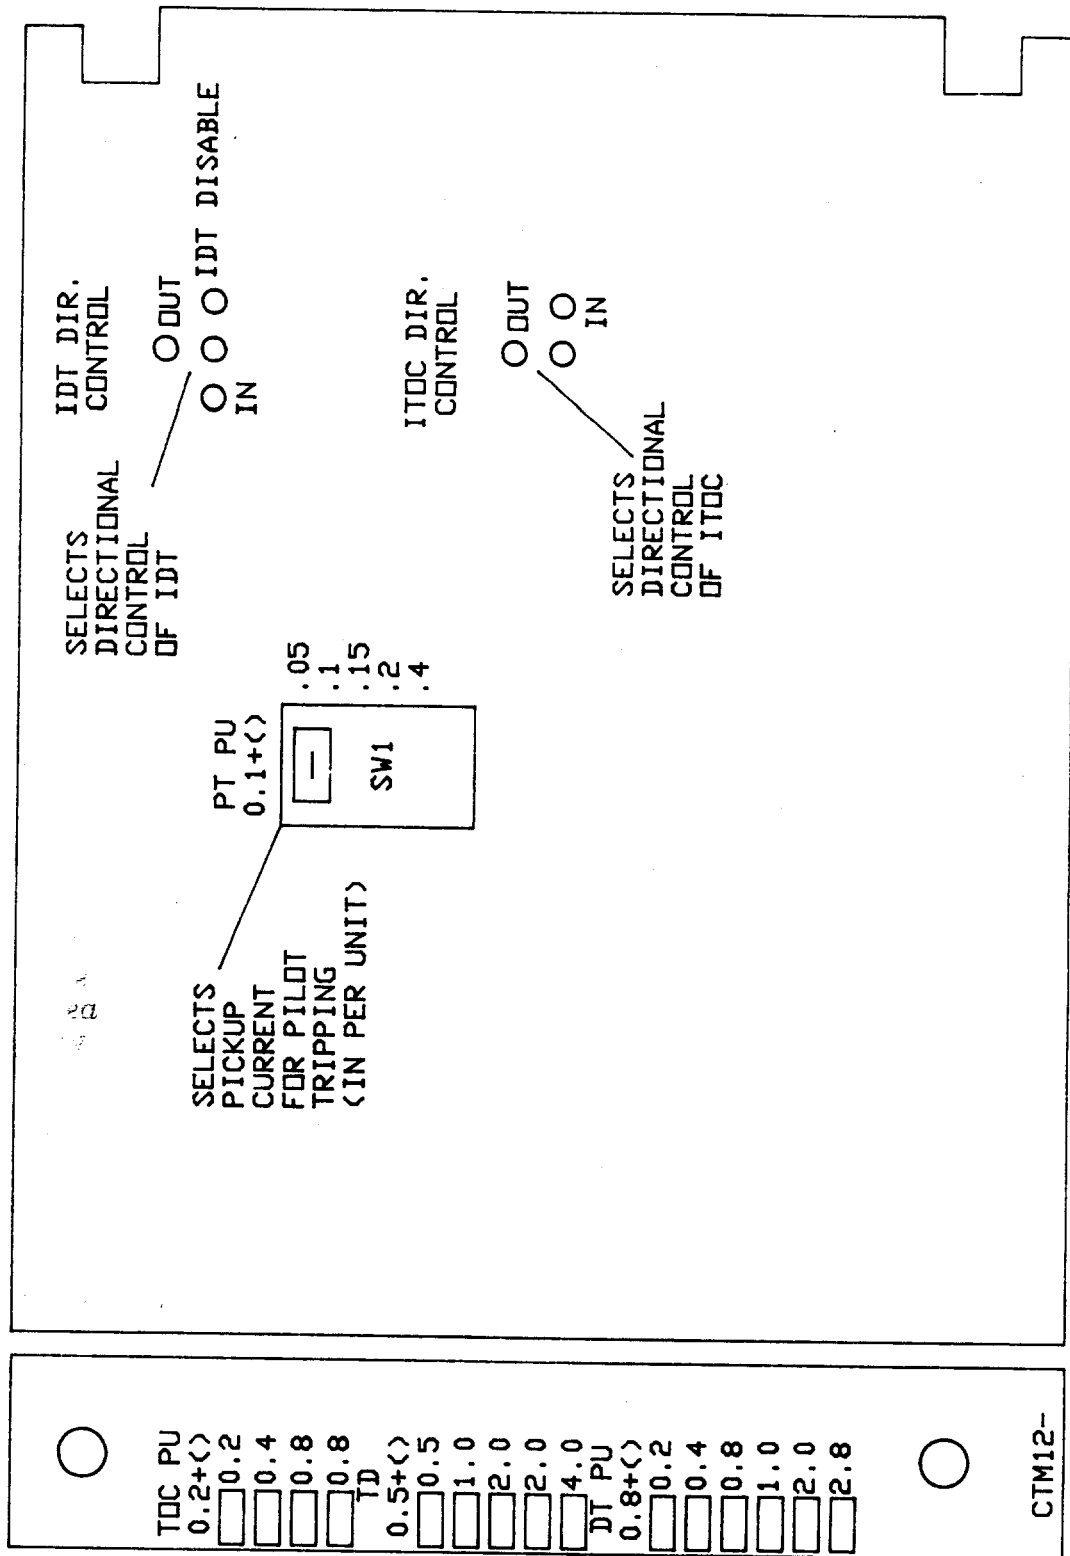

Figure MO-6 (0286A2803) Front Panel & Internal Switch & Links, CTM12(-) Module
The IDT pickup is set using the switches located on the front panel of the CTM12(-) module, Figure MO-6. Directional control of IDT is implemented via a link located on the board of the CTM12(-) module, Figure MO-6. It is also possible, via the same link, to disable IDT altogether.
The TOC function can be directionally controlled by the NT function if so desired, (link on CTM12(-) board, Figure MO-6); directional control should be considered if it becomes difficult to coordinate the TOC functions with similar functions in adjacent line sections. The pickup and time-dial setting for the TOC function should be selected to provide coordination with similar functions in adjacent line sections. Both settings are made using the switches located on the front panel of the CTM12(-) module, Figure MO-6.
Set the IPT function to 0.1 per-unit current, using the switches located on the board of the CTM12(-) module, Figure MO-6 (assume the line length is less than 100 miles).
1. Set the "TOC DIR. CONTROL" link, located on the CTM12(-) module, Figure MO-6, to the "OUT" position.
1. Using the "DT PU" switch located on the front panel of the CTM12(-) module, Figure MO-6, set the "IDT" function to 0.8 PU.
2. Set the "IDT DIR. CONTROL" link, located on the board of the CTM12(-) module, Figure MO-6, to the "OUT" position.